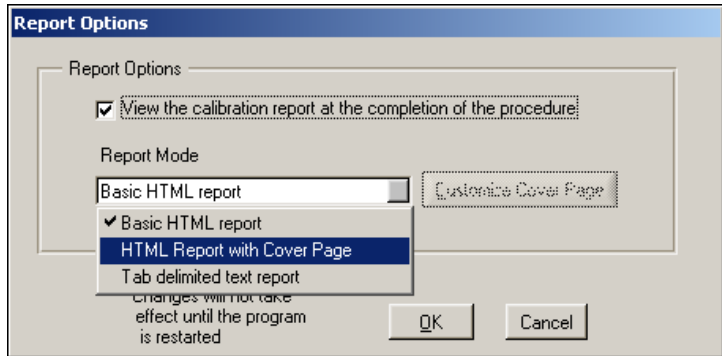

Figure 2-12. Report Options
2. Check the box labeled **View the calibration report at the end of the procedure**, as shown in Figure 2-12.